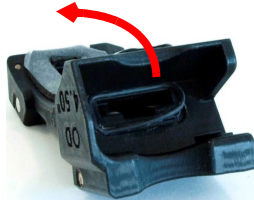

Figure 5-4 Changing the probe's o-ring seal on the wedge
1. Use an appropriate tool such as a small flathead screwdriver to carefully lift and pull off the old o-ring seal without damaging the mounting surface on the wedge (see Figure 5-4 on page 50).